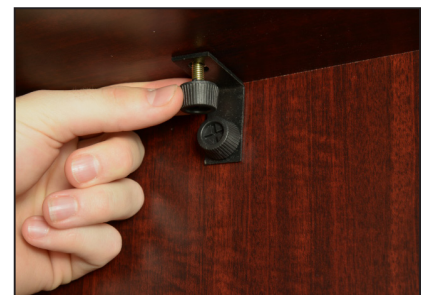

Figure 3
STEP 3B: Finally, place Thumb Screw into the front angle bracket connecting the **Desk Top (A)** to the **Desk Front (B)** (see figure 3.)